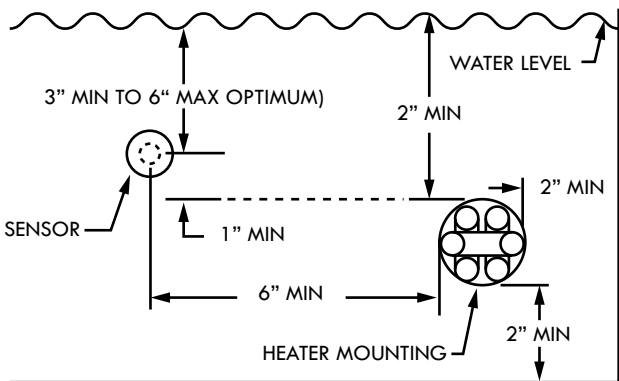

Figure A-50: Recommended basin heater mounting
- Two inch hubs are used to insert the heater and combination level sensor /thermostat well in the PVC couplings located at the basin (identified with labels). Immersion heater should be located 2 inches (minimum) above the basin bottom. The access port for the combination level sensor/thermostat well should be one inch (minimum) above the heater but below the water level. (See Figure A-50 for recommended distances and mounting).